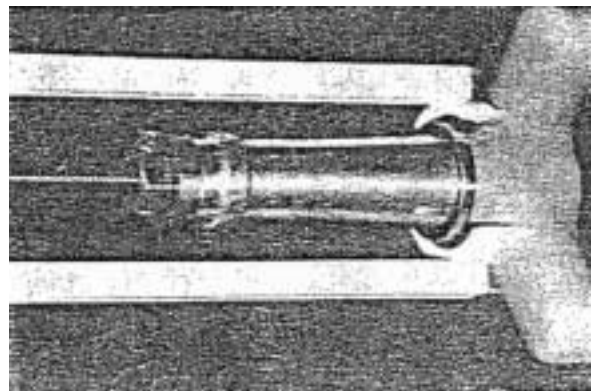

Figure 4: The headset tool in position to remove the lower bearing on the fork.
- A) 6. Place the bearing puller (part D) underneath the bearing on the fork and reseat the fork pusher into the top of the fork. By screwing the threaded rod, pull the lower bearing over both bearing surfaces (see Fig. 4).